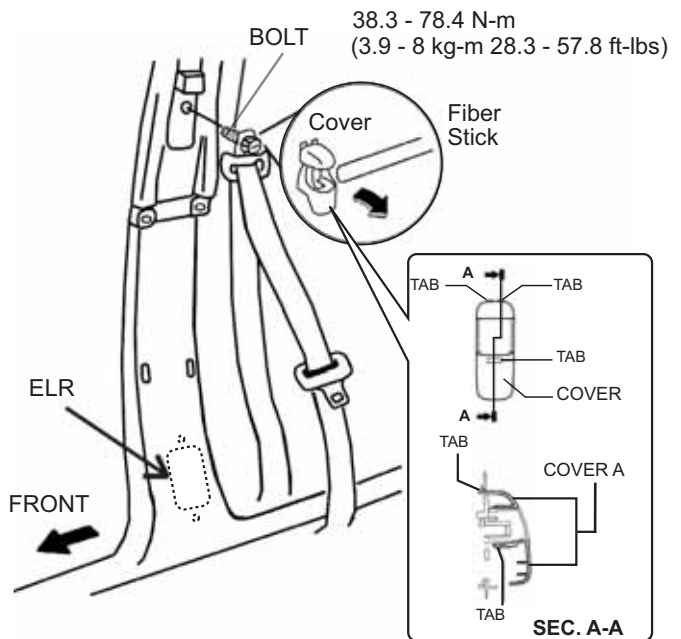

FIGURE 37
- 1.) USE A FIBER STICK TO REMOVE THE BOLT COVER. THERE ARE THREE TABS SECURING THE BOLT COVER IN PLACE. (SEE FIGURE 37 AND SEC. A-A)